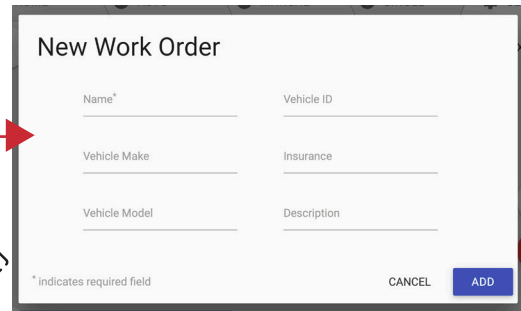

Figure 4.24
3. Once you press the Add New Work Order Button, a menu will pop up and let you enter in the work order information (Figure 4.24).